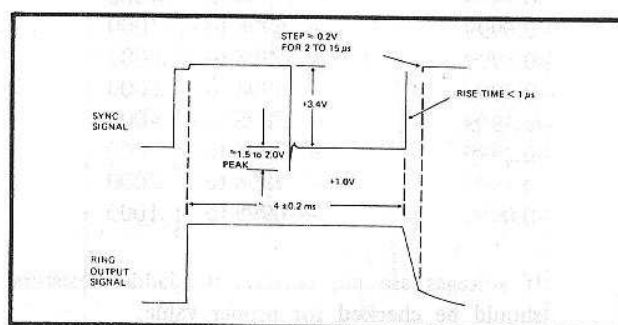

Figure 4-12. RING COUNTER - SYNC SIGNAL.
- The ring counter synchronizing signal, TP11, should appear as shown in Figure 4-12.